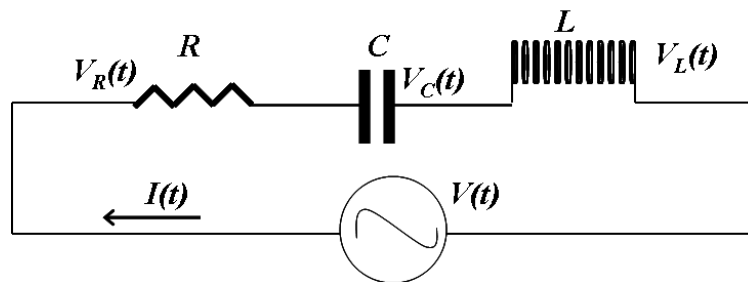

Figure 1. The LRC series circuit.
2. Figure 1 on the following page shows an LRC circuit with the resistor of $10\ \Omega$, the capacitor of $330\ \mu\text{F}$, and the inductor of $8.2\ \text{mH}$.
The basic AC circuit shown in Figure 1 consists of a resistor, an inductor, and a capacitor. The balance between the associated resistance, inductance, and capacitance is critical for how the AC circuit functions. Assume the applied AC voltage is described by